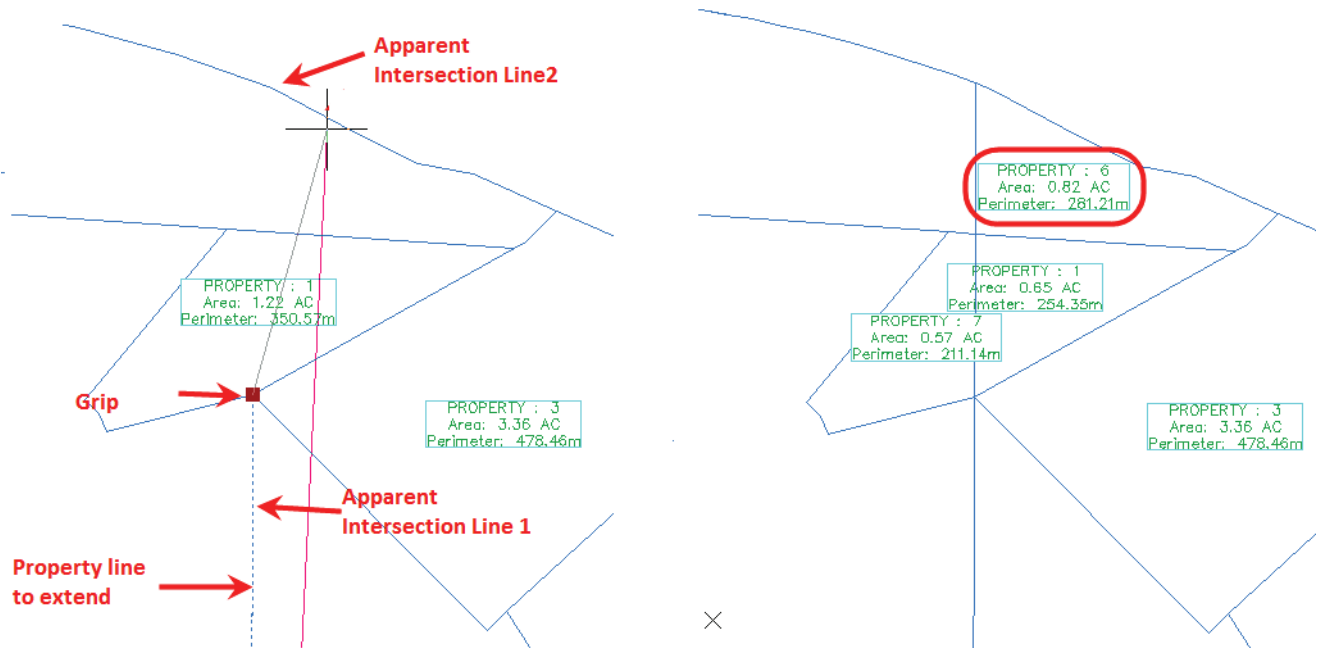

Figure 2–18
- Select the parcel label **Property:6** and in the contextual Ribbon, select **Parcel Properties**. In the Parcel Properties dialog box, select the *Analysis* tab and select the **Mapcheck analysis** option. Scroll down the list and you should see the *Error Closure* or *Precision*, as well as the total *Area*, as shown in Figure 2–19. This is the area of land you will need to purchase. Perform the same steps to determine the area you will need to purchase from the single-family lot.